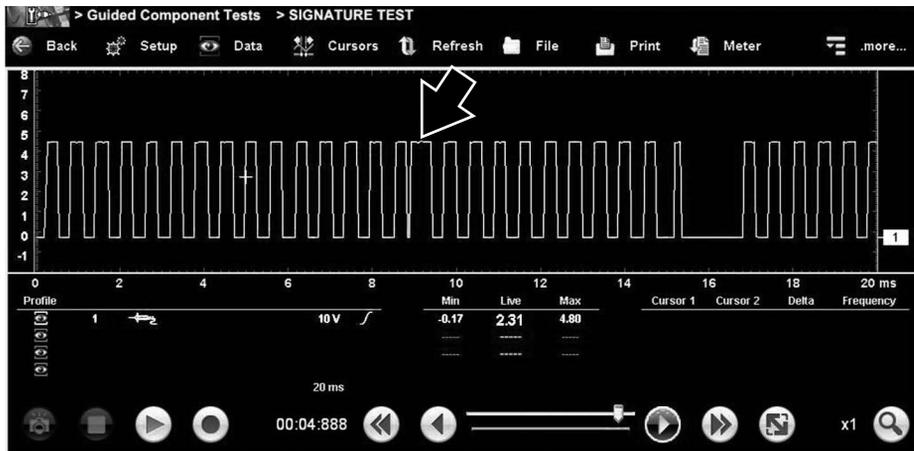

Figure 12 CKP Signature Test - Glitch On
12. Set the **Glitch switch** to on and review the waveform. A glitch is simulated by an erratic pulse in the signal once every crankshaft rotation (Figure 12).